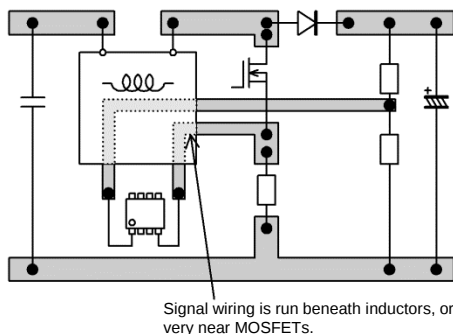

Fig. 38: Bad pattern example
- Signal wiring is run beneath inductors, or near MOSFETs or diodes. (Fig. 38)